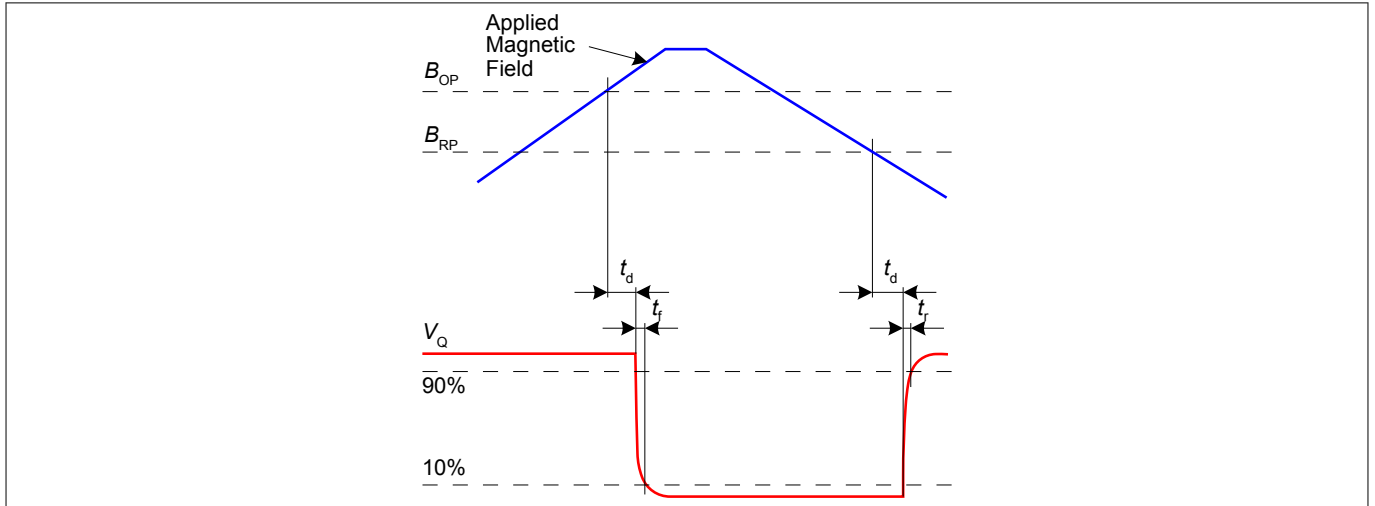

Figure 6 Timing diagram
(1) See Figure 6
(2) To operate the sensor at maximum switching frequency, the value of the magnetic signal amplitude must be 1.4 times higher than the static fields. This is due to the -3 dB corner frequency of the low pass filter in the signal path.
(3) Systematic delay between magnetic threshold reached and output.
10	Edited figure 6 (optional: data matrix code)